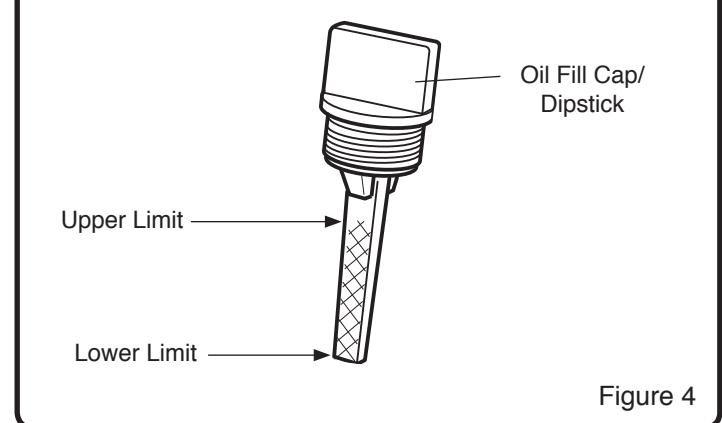

Figure 4
4. When oil level is full, the oil will be at upper limit on dip stick. If oil level is near or below the lower limit, oil must be added. (See Figure 4)